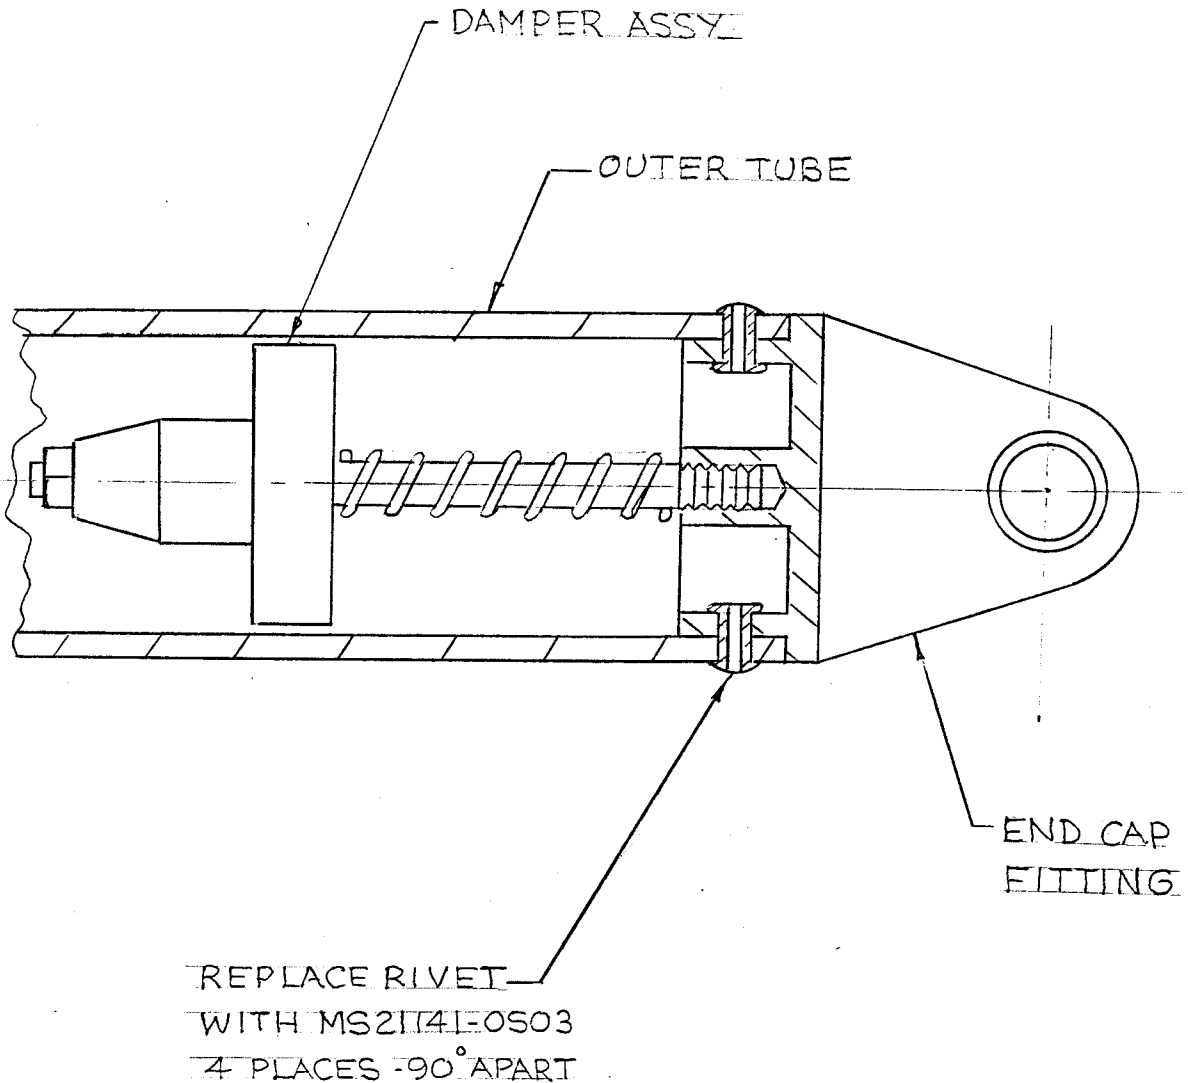

FIGURE 1 — OUTER TUBE AND END CAP
- A. Drill out four (4) rivets in outer tube, shown in Figure 1, using a No. 19 drill (.166 inch diameter).
- E. Install four (4) MS21141-0503 rivets using a double action tool as indicated on sheet 1 of the attached Military Standard MS21141.